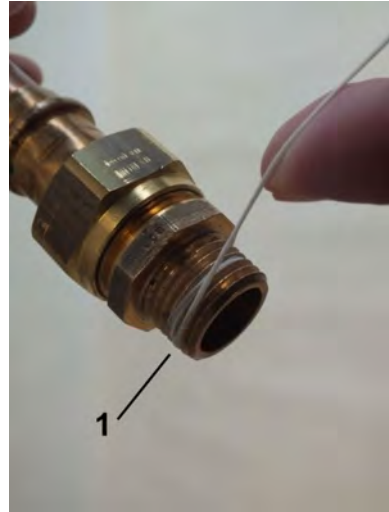

Fig. 11: Apply sealing thread
4.  Apply sealing thread (Fig. 11/1) to the napped area in the threaded direction. Observe the quantity recommended by the sealant manufacturer.